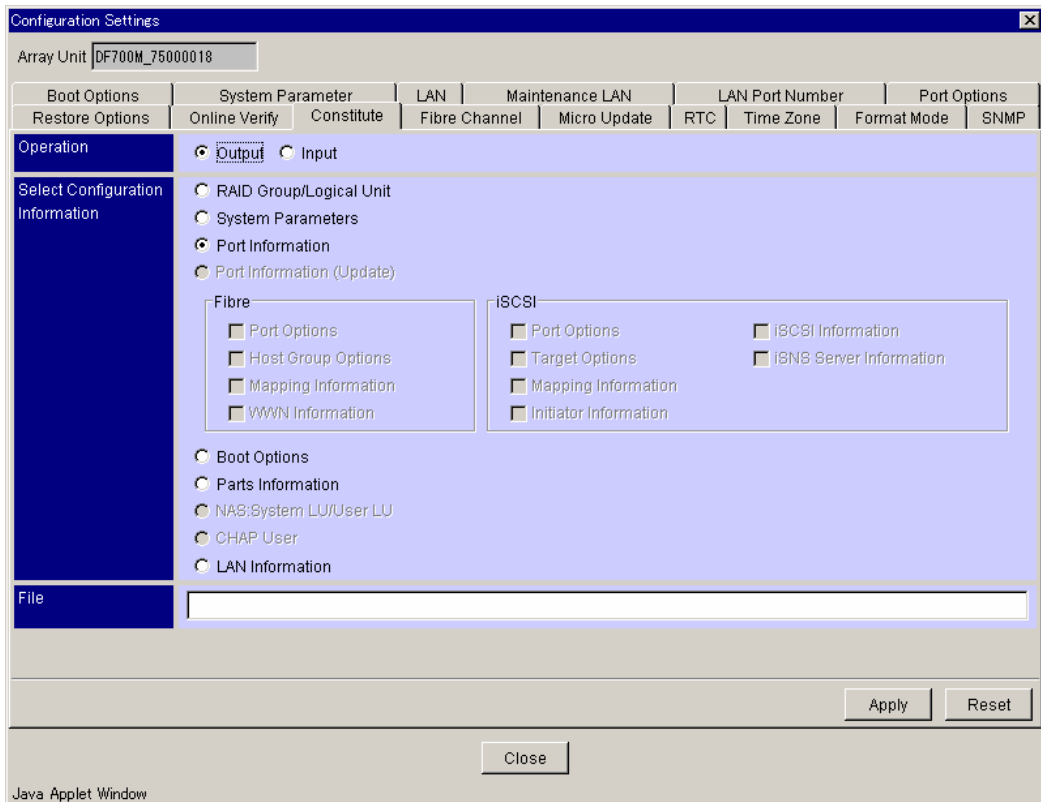

Figure 9.24 Configuration Settings - Constitute panel (output)
2. Click the **Constitute** tab. See Figure 9.24.